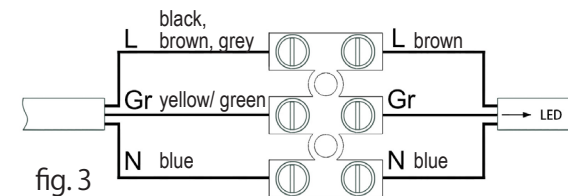

fig. 3
5. Connect the wires according the marks. (fig. 3).